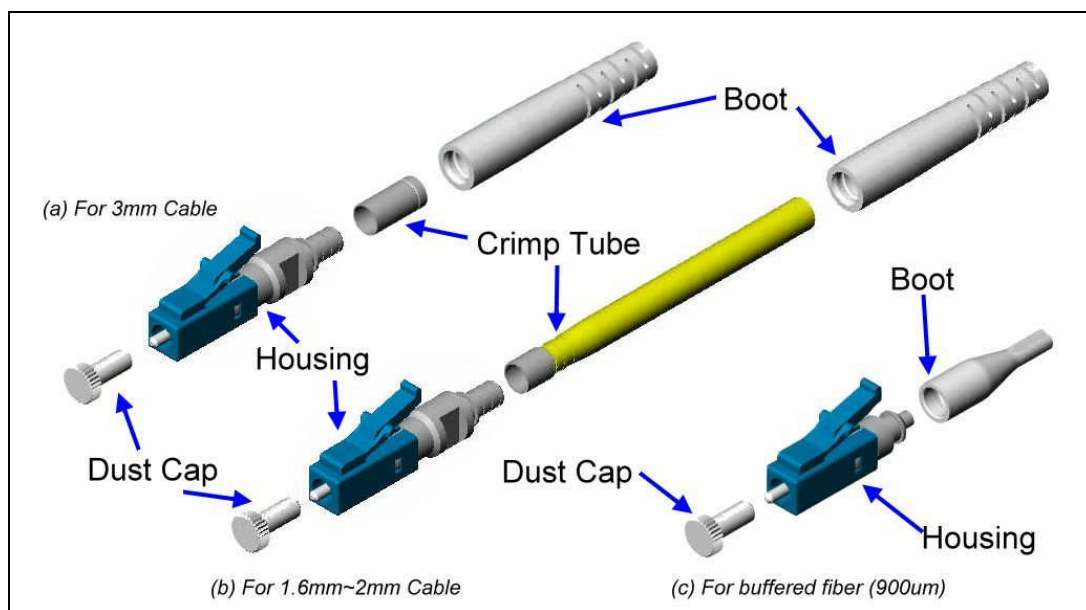

Fig 1
Fig. 1 shows the structure of the LightCon™ LC Connector, consisting of Connector Body, Crimp Sleeve, Boots, and Dust Cap. Connectors for different cables/fibers may vary slightly by boots or crimp sleeves. Follow the steps below to make cable assembly.
Step 1 Slide the Boot and Crimp Sleeve onto the Cable as shown in Figure 1. For 3mm Cable, use the metal Crimp Sleeve. For 1.6 – 2mm Cable use the Crimp Sleeve with Crimp Tube.